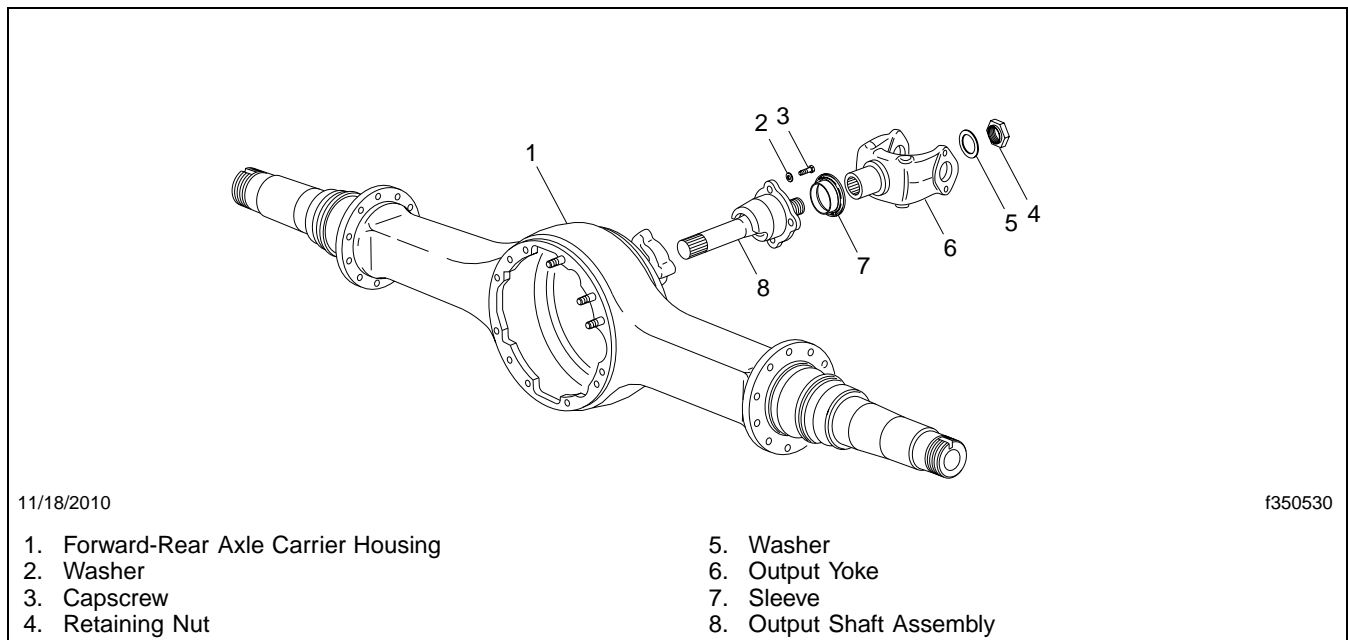

Fig. 1, Output Shaft Assembly and Related Components
4. Remove the output yoke retaining nut and washer. See **Fig. 1**.